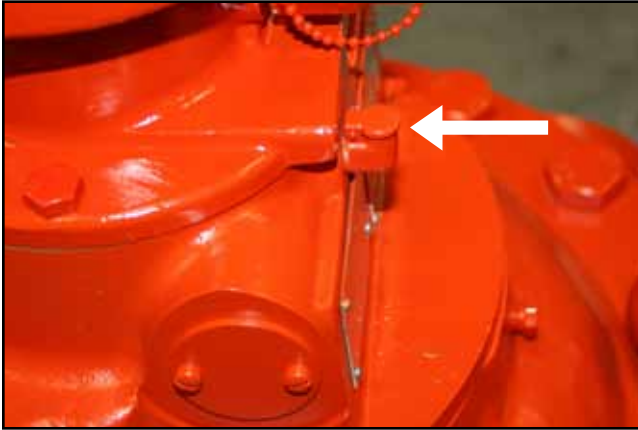

Figure 5 – Oil Cup (E3)
1. If your meter has a calibrator, it requires lubrication with light oil (SAE-10). Initially, apply it after approximately five hours of operation and then about twice yearly. (See oil cup – Figure 5).
Page 5: Inserted Figure 5, 6, and 7.